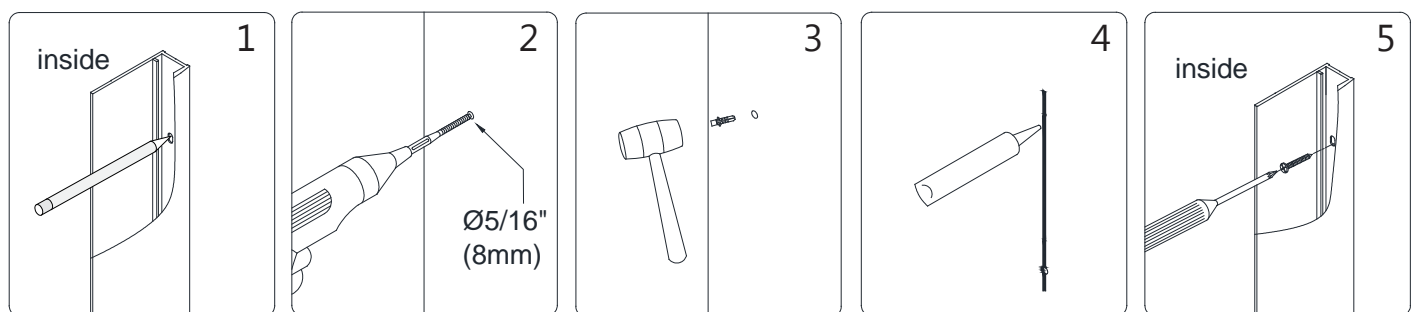

**Fig 5**
- Mark the drilling hole onto the threshold through the hole in the **Bottom Bracket (#18)**. (**Fig. 5**)